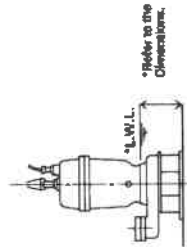

Fig. 2
- (1) Under no circumstances should the cable be pulled while the pump is being transported or installed. Attach a chain or rope to the grip and insert the pump.
- (2) This pump must not be installed on its side or operated in a dry condition. Ensure that it is installed upright on a secure base.
- (3) Install the pump at a location in the tank where there is the least turbulence.
- (4) If there is a flow of liquid inside the tank, support the piping where appropriate.
- (5) Install piping so that air will not be entrapped. If piping must be installed in such a way that air pockets are unavoidable, install an air release valve whenever such air pockets are most likely to develop.
- (6) Do not permit end of discharge piping to be submerged, as backflow will result when the pump is shut down.
- (7) Non-automatic pumps (model DVS) do not have an automatic operating system based on built-in floats. Always keep an eye on pump operating water level. Do not operate the pump for a long time with the water level near the minimum operating level as the automatic cut-off switch incorporated inside the motor will be activated. To avoid dry operation, install an automatic operating system, as shown in Fig. 2 and maintain a safe operating water level.